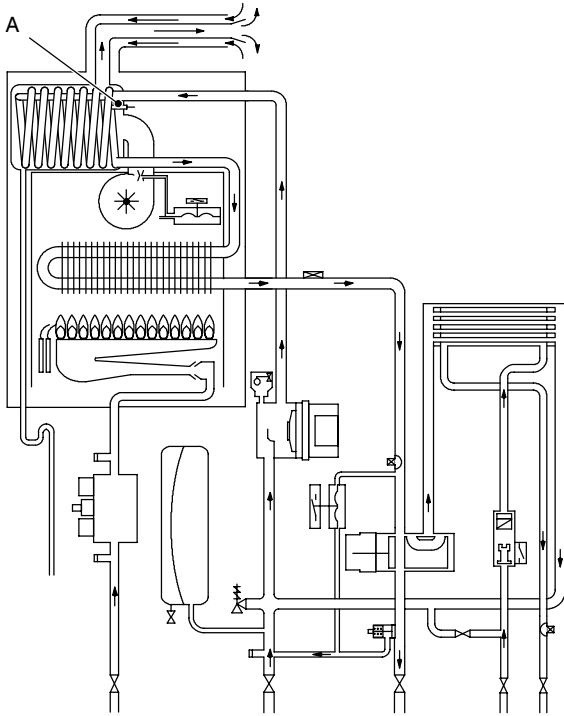
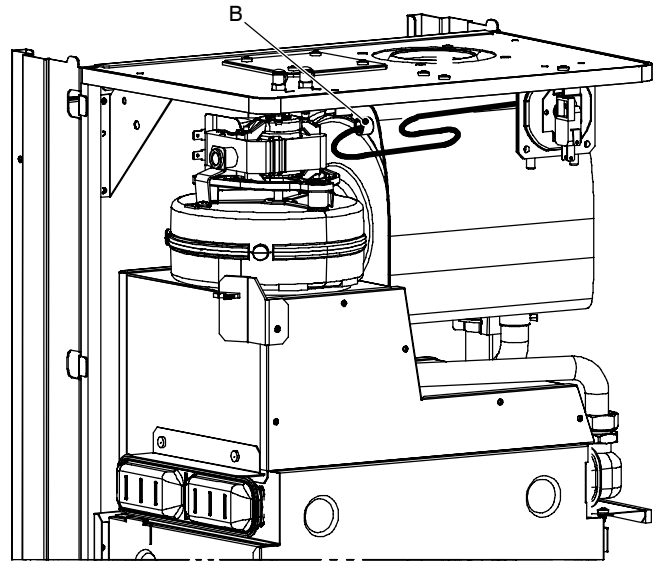

Fig. 80
Fig. 81
The Flue temperature probe NTC A in Fig. 80 and Fig. 81 senses the temperature of the combustion products that flow through the condensing heat exchanger.
- 3 Unscrew and remove the thermostat probe B (Fig. 81) from the condensing heat exchanger.